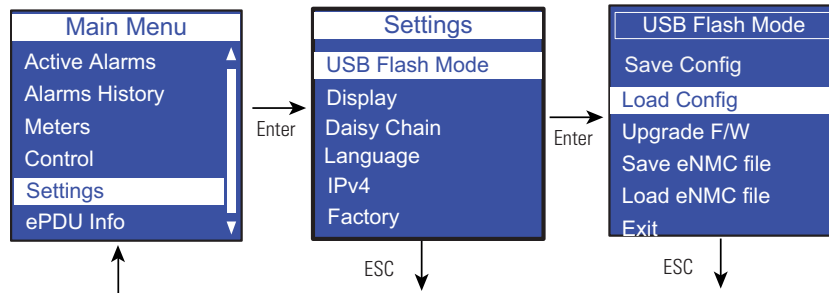

Figure 63. Example Load Config.
- Select Load Config then click **OK** to start loading the ConfigurationData.xml file into the eNMC module (see Figure 63).